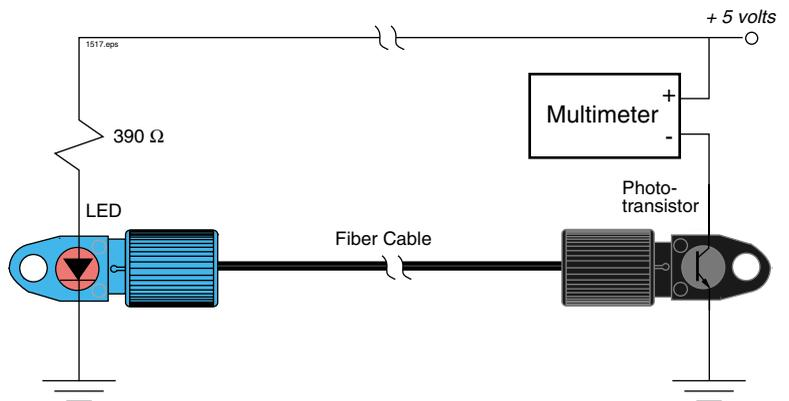

Figure 3.2 Test circuit for measuring cable transmission.
7. Using a solderless breadboard, electrically connect the red LED and phototransistor as shown in the circuit diagram in **Figure 3.2**. Use the device diagrams found in the **Appendix** to identify anode and cathode on the LED, and collector and emitter on the phototransistor. (A radiometer or optical power meter can be used instead of the phototransistor, device mount and multimeter if your lab has this equipment available.)